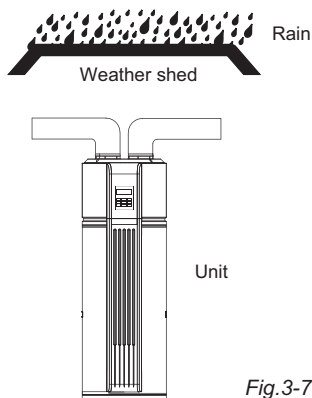

Fig.3-7
- In terms of the unit connect with duct reaching to outdoor, a reliable water-resistant measure must be conduct on the duct, to prevent water from dropping into internal of the unit.(Fig.3-7)